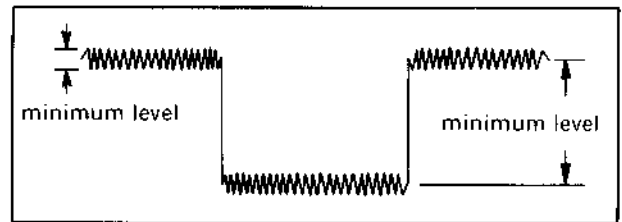

Fig. 5-38 Voice control level
3. Adjust R10 (BALANCE [A]) so that the clock noise level of TP-1 is minimum, as shown in Fig. 5-38.
5. Adjust R11 (BALANCE [B]) so that the clock noise level of TP-2 is minimum, as shown in Fig. 5-38.
7. Adjust R14 (BALANCE ADJ) so that the level of TP-3 is minimum, as shown in Fig. 5-38.